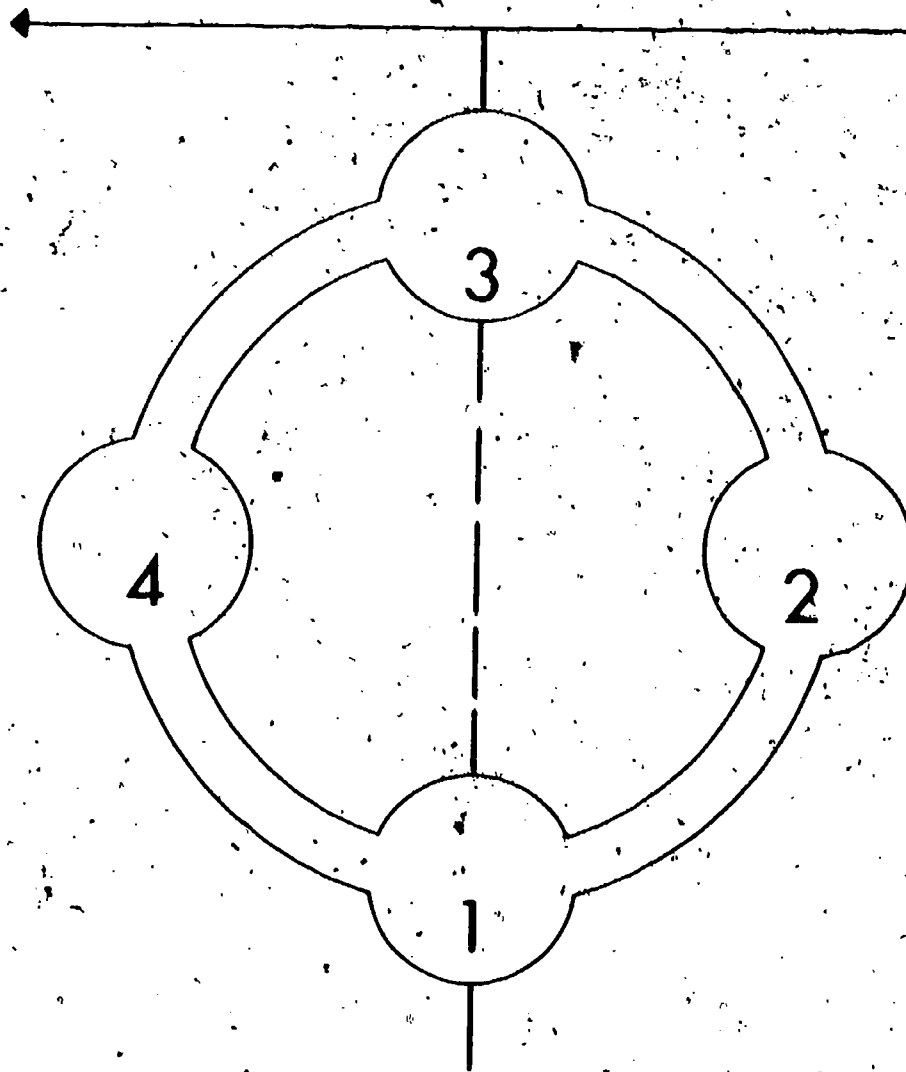

Fig. 12 — Diagram Of Basic Refrigeration Cycle (See Question 5)
5. Using the diagram in Fig. 12, show the basic refrigeration cycle. Label parts 1, 2, 3, and 4, and show "High side" and "Low side" by each arrow at the top. Between each part of the cycle, label the refrigerant flow as high or low pressure, and as gas or liquid. Show by arrows around parts "2" and "4" whether heat is absorbed or given off.